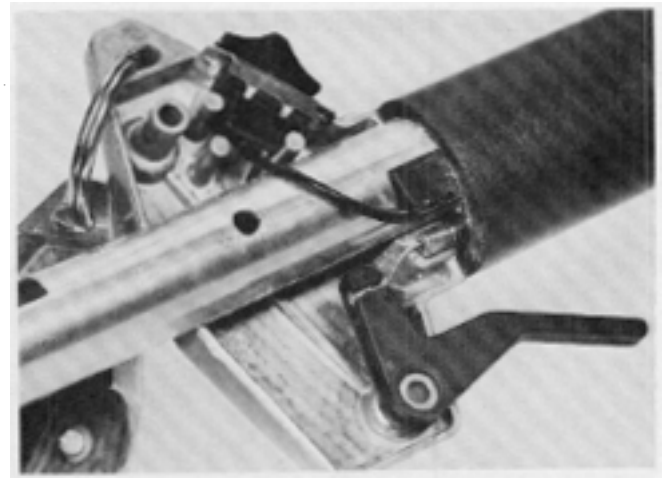

Figure 121
3. Before inserting the handle into the mount, remove the upper control half. Insert the throttle cable into the rear of the grip and attach the cable to the trigger as shown in Figure 121.